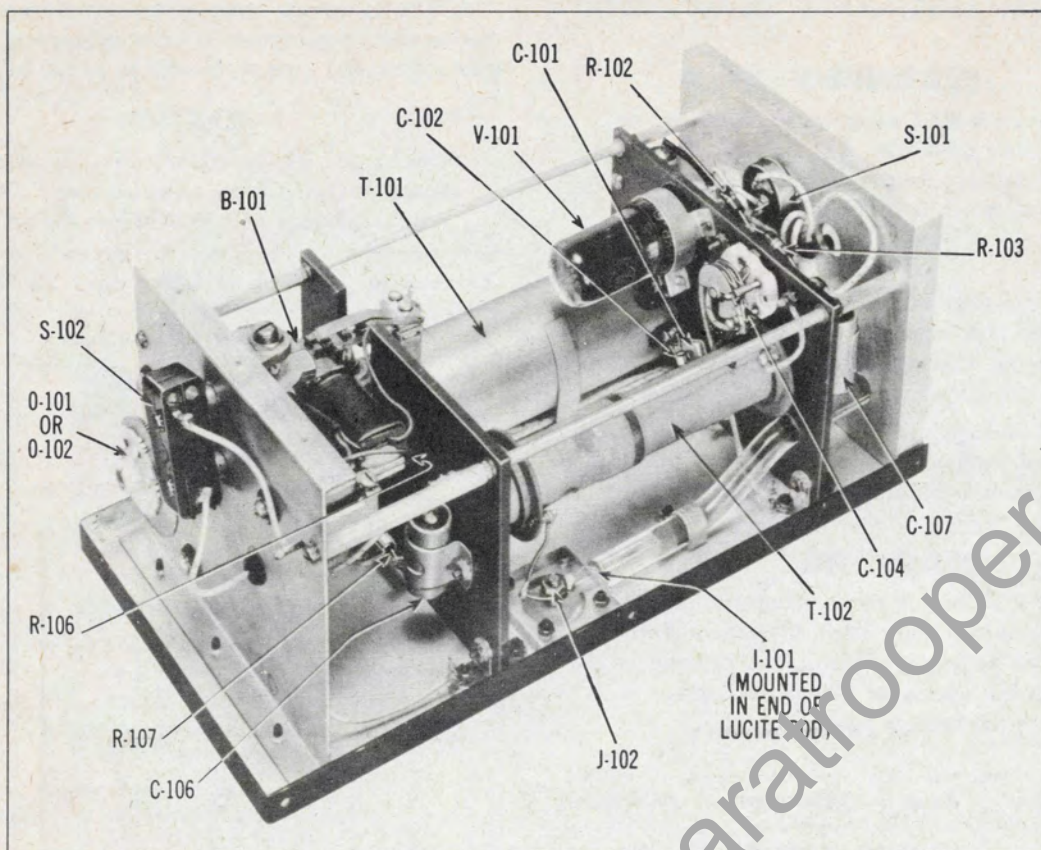

Figure 5-5. Radio Transmitter T-59/CRN-4—View of Left Side of Chassis
b. A table of voltage and current data is given below. (See figs. 5-5 and 5-6 for location of parts.) All measurements were made with a 1000-ohm-per-volt meter.
a. Before making resistance and continuity measurements, disconnect the battery and discharge all capacitors by shorting them. Leave tube in socket. (See figs. 5-5 and 5-6 for location of parts.)
(2) ADJUSTMENT USING A WATT-HOUR METER, A LAMP AND A STOP WATCH.
- (b) Reconnect the keying switch in series with a suitable load and the load terminals of the watt-hour meter. A 100- to 300-watt lamp bulb may be used depending on the type of watt-hour meter used. (See fig. 5-5.)